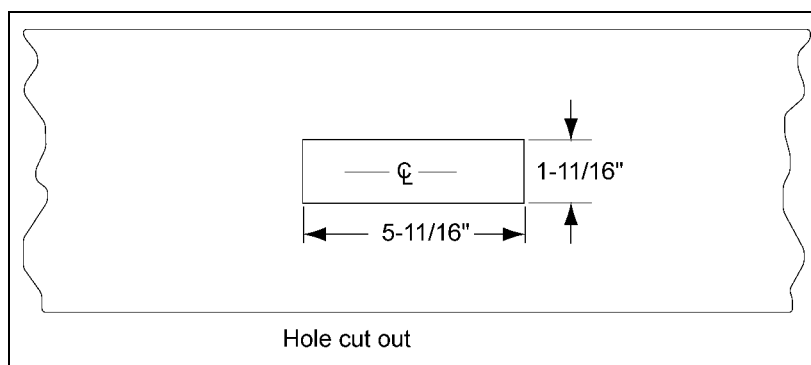

Figure 3I Top View
2. Cut a hole in the bottom of the spout ($1\text{-}11/16'' \times 5\text{-}11/16''$) as shown in Figure 3I. Use a sabre saw for the hole, not a torch. Remove burrs and check so the sensor block fits into the stepped edge.